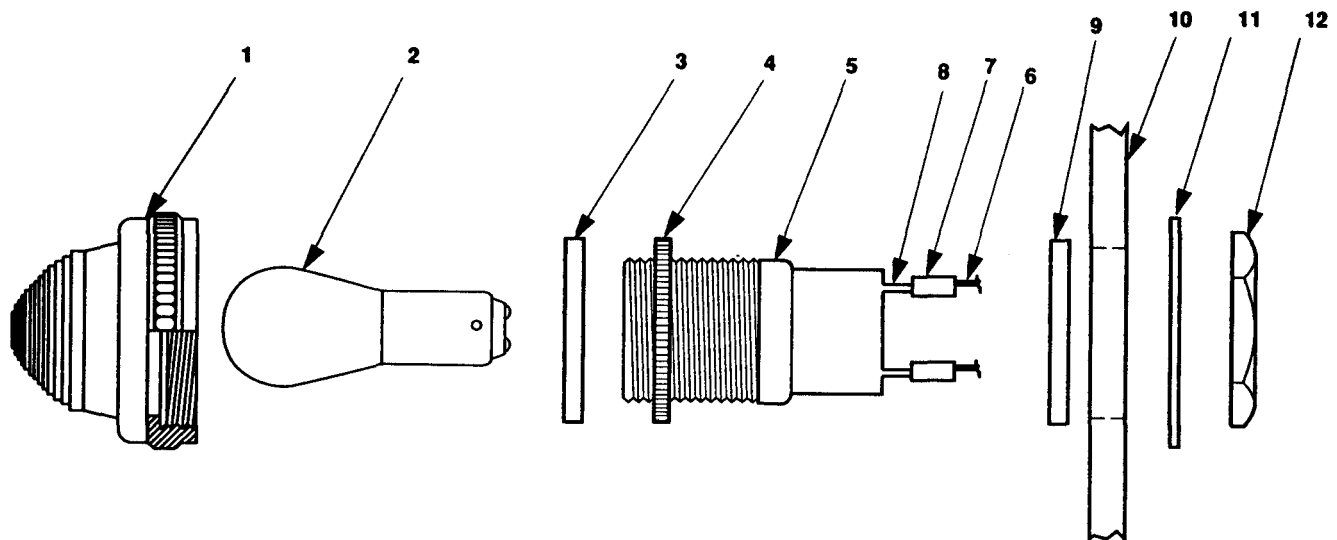

Figure 4-15. Synchronizing Light
Remove lens (1, figure 4-15) and bulb (2) and measure for continuity between terminals (8). If continuity exists, replace lamp housing.